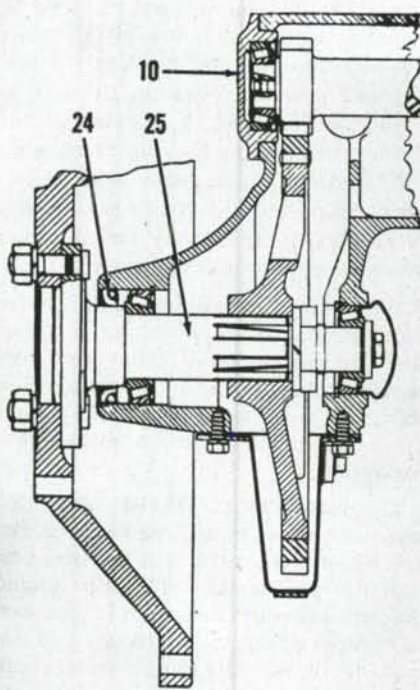

Fig. AC116—Model C details of final drive wheel axle shaft and bull gear. Bearing retainer (10) must have oil grooves when used with a twelve tooth bull pinion.
Fig. AC115—Model B final drive and brake assembly. Shims (9) control bull pinion shaft bearings adjustment. Shims (16) control wheel axle shaft bearings adjustment. Model C is similar except for differences in wheel axle shaft construction; refer to Fig. AC116.
K. Brake drum key	16. Shims	33. Brake toggle pin